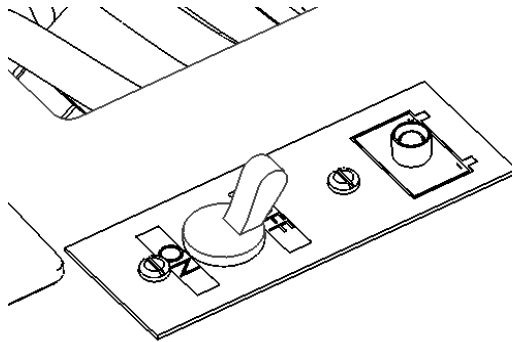
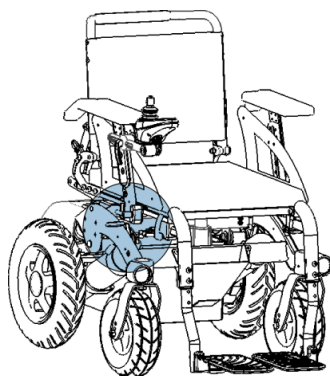
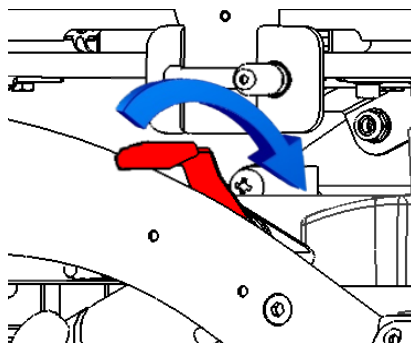

Figure 14
Figure 19
Figure 20
If you do not use the Speedstar for a long time make sure that you set the switch (I) OFF as shown in in Figure 14. You should keep the Speedstar in a place free from dust and moisture and away from heat sources.
Use the switch (I), see Figure 14, to on off the Speedstar.
If you need to use the push mode use switch (I), see Figure 14, to turn off the Speedstar and set the release engine lever as shown in Figure 19 and in Figure 20.